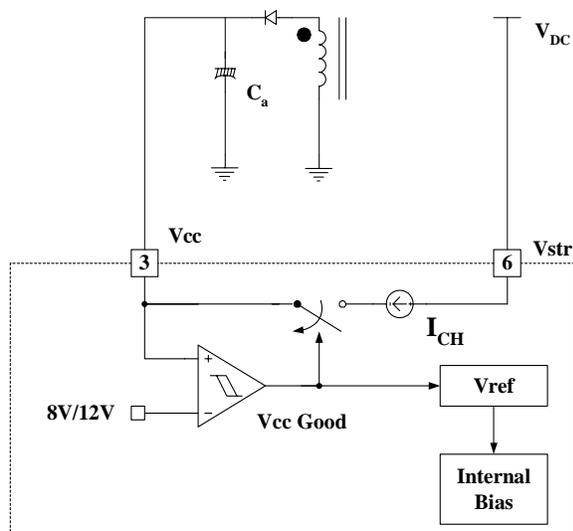

Figure 4. Internal Startup Circuit
**1. Startup:** In previous generations of Fairchild Power Switches (FPS™) the Vcc pin had an external start-up resistor to the DC input voltage line. In this generation the startup resistor is replaced by an internal high voltage current source. At startup, an internal high voltage current source supplies the internal bias and charges the external capacitor (Ca) that is connected to the Vcc pin as illustrated in Figure 4. When Vcc reaches 12V, the FSDM0465RB begins switching and the internal high voltage current source is disabled. Then, the FSDM0465RB continues its normal switching operation and the power is supplied from the auxiliary transformer winding unless Vcc goes below the stop voltage of 8V.